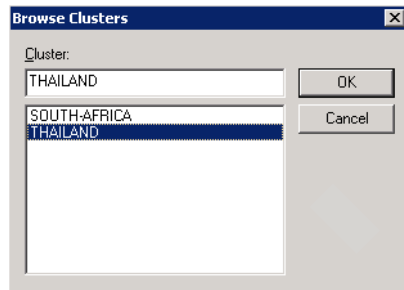

Figure 25-39 Browse Clusters
4. Click **Browse** and you will see the clusters that are available in the domain. Select your cluster from the list (Thailand, in our configuration) and click **OK** (Figure 25-39).